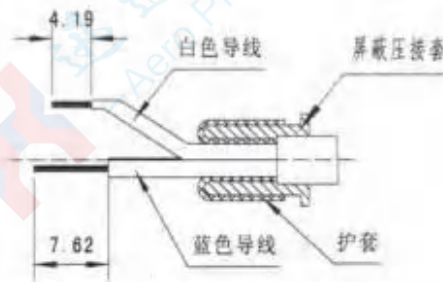

图34
② As shown in Figure 34, slide the shield crimp ferrule onto the cable jacket, fit the shield layer over the shield crimp ferrule, and strip the internal conductors as illustrated (fillers can be cut off near the shield layer).